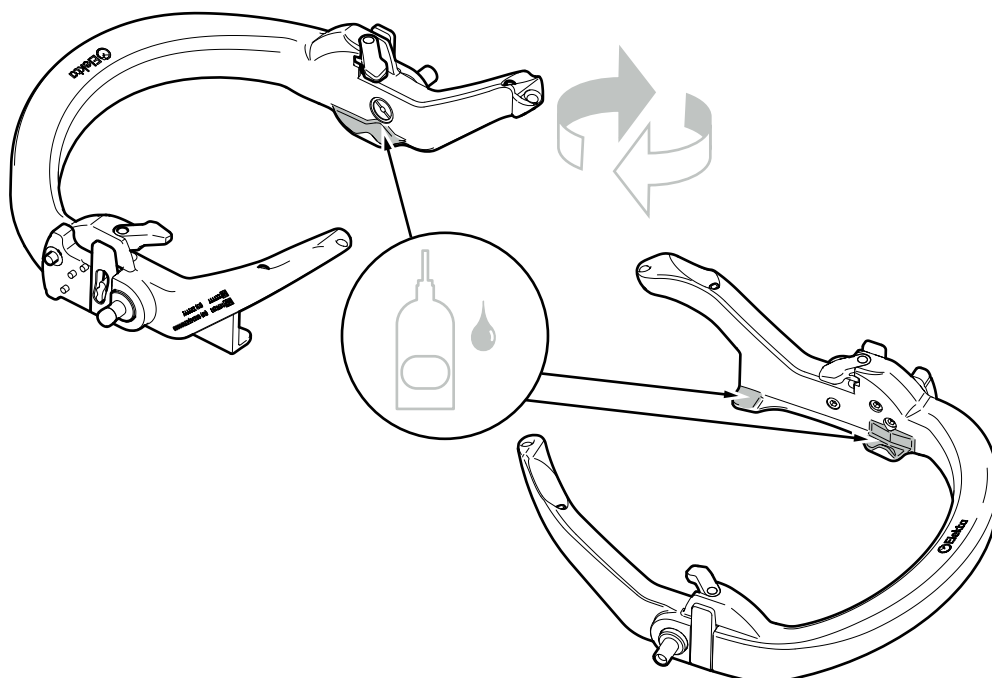

Figure 6.18 Areas for lubrication
- 11 Lubricate the three interface areas with AESCULAP STERILIT I Drip lubricator (or an equivalent), see Figure 6.18. Make sure that the entire surface of each interface area is lubricated.